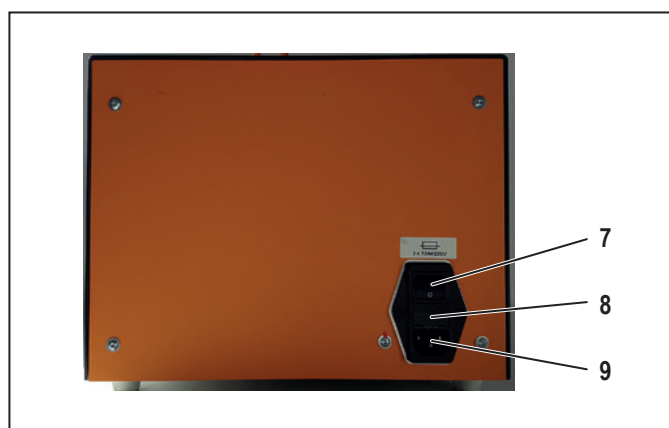

Figure 3.2 Back view
- ▶ Insert the power cable into the power connection socket (figure 3.2, 9) of the machine and connect it up to the power supply.
- ▶ Switch on the Crimpfix E at the On/Off switch (figure 3.2, 7).